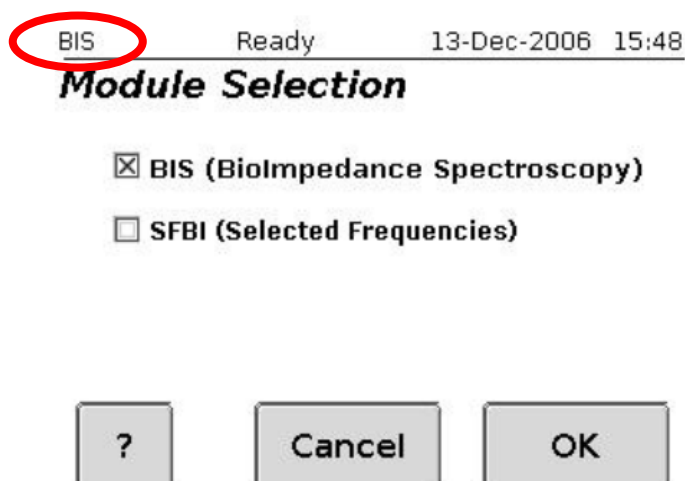

Figure 4. The module selection screen
22. After tapping “modules”, choose either BIS or SFBI by tapping the screen. The one you have selected to use, from the “modules” screen will be marked with a cross. BIS will then be displayed on the upper left of the ImpediMed machine screen (circled red, figure 4).